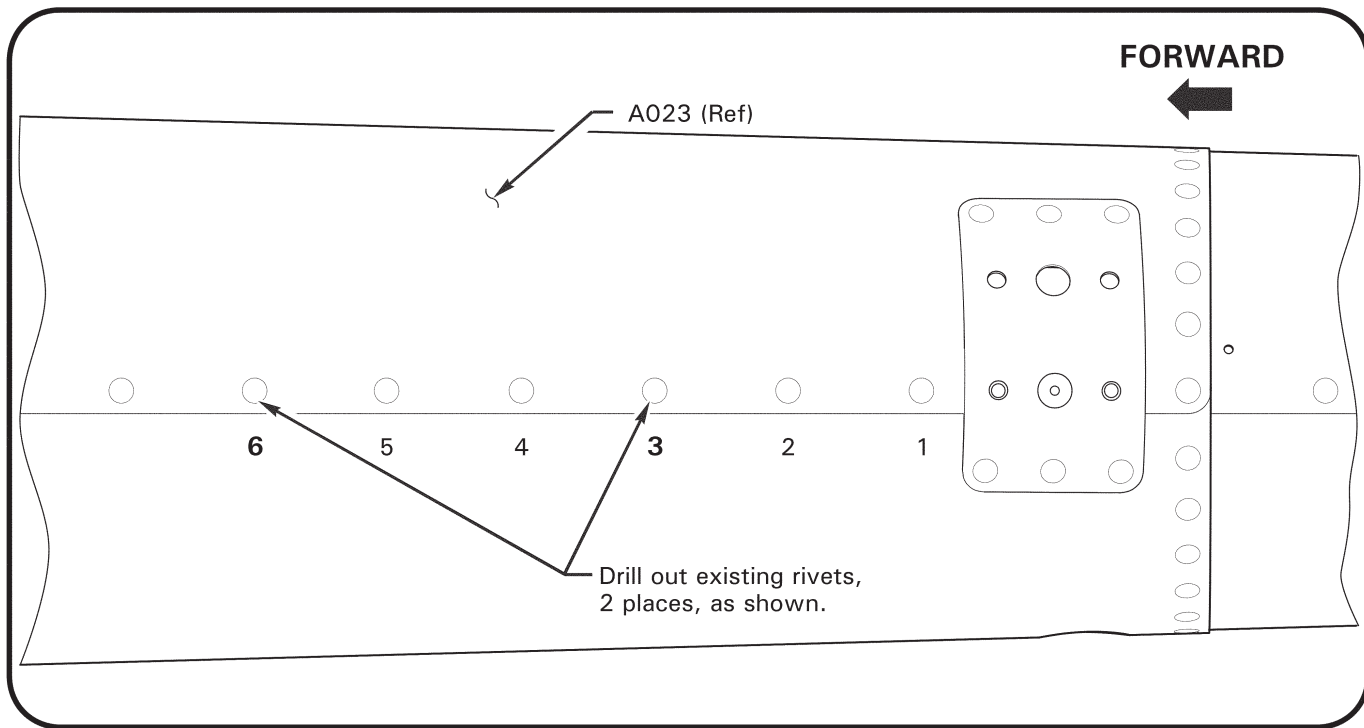

FIGURE 1 Locate & remove tailcone rivets
4. Refer to Figure 1. Locate 3rd and 6th longitudinal rivets, counting from first rivet as shown. Drill out noted rivets using #30 drill fitted with drill stop.